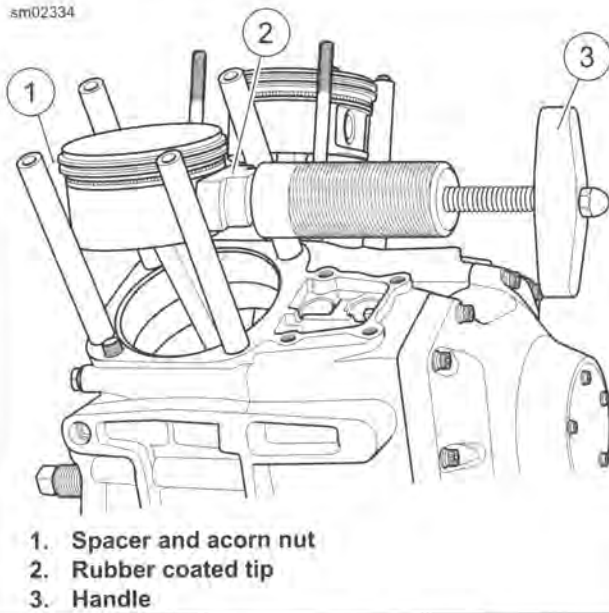

Figure 3-25. Piston Pin Removal
3. See Figure 3-25. Remove the piston pin. If piston pin is difficult to remove, use PISTON PIN REMOVER (Part No. HD-42320-B).